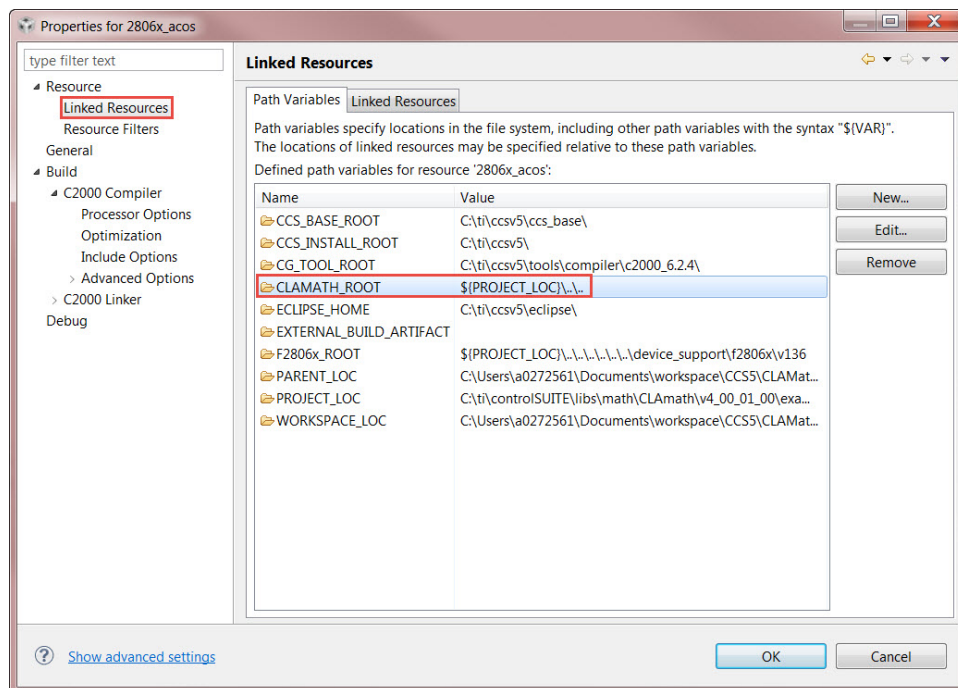

Figure 4.4: Creating a new build variable
1. Go to **Project Properties->Linked Resources** and add a new variable (see Fig. 4.4), `CLAMATH_ROOT`, and point it to the root directory of the CLA Math library in C2000Ware, i.e. the `c28` folder.